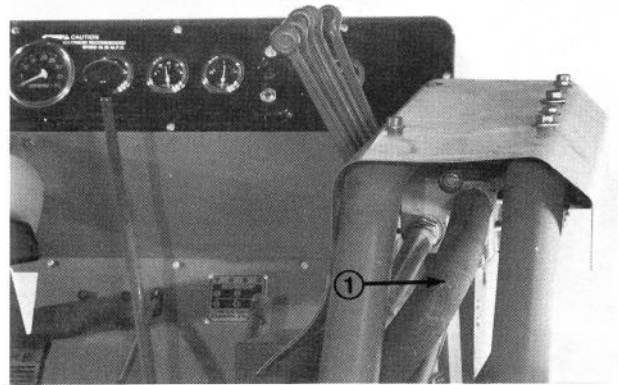

Figure 48
2. Drain system by disconnecting the pressure hose at the rear of valve bank and placing it into a suitable drain pan. Start and run engine at idle to pump the fluid out of the system (Fig. 48).